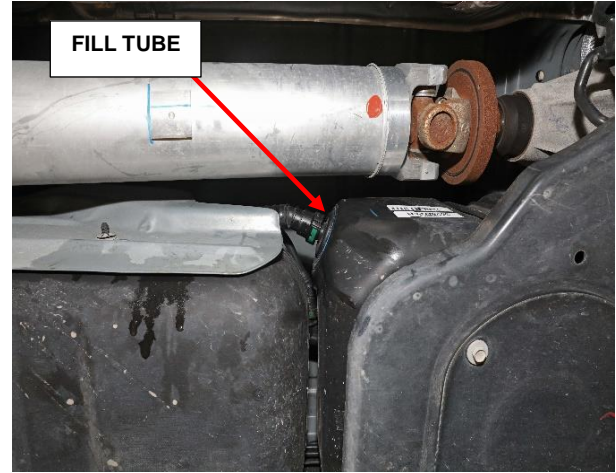

Figure 1 – Fill Tube
3. Disconnect the Diesel Exhaust Fluid (DEF) fill tube from the tank (Figure 1).